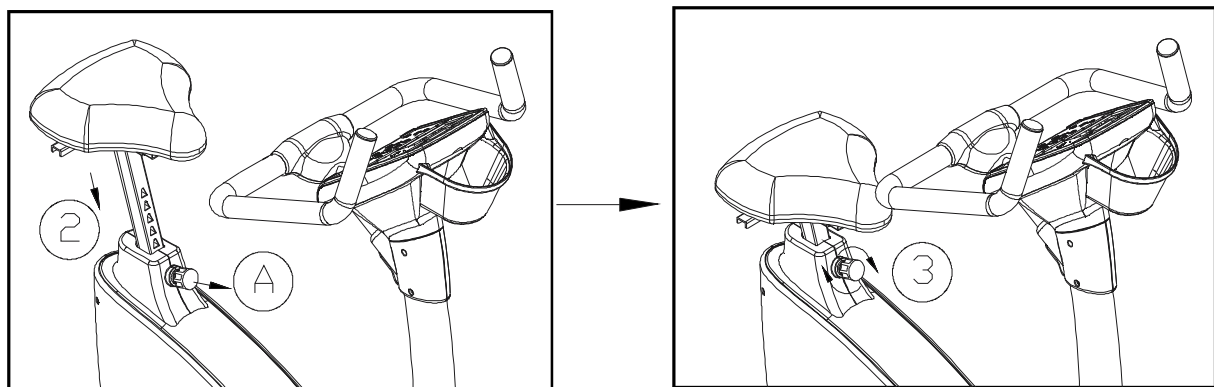

Fig.13
3. Turn the adjustment knob clockwise to secure it in place. See Figure 13.